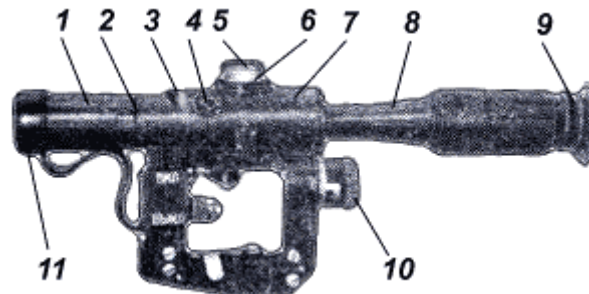

Fig. 7. Sight PSO-1:
1.5.1. The sniper optical sight PSO-1 (Fig. 7) consists of the following main parts: